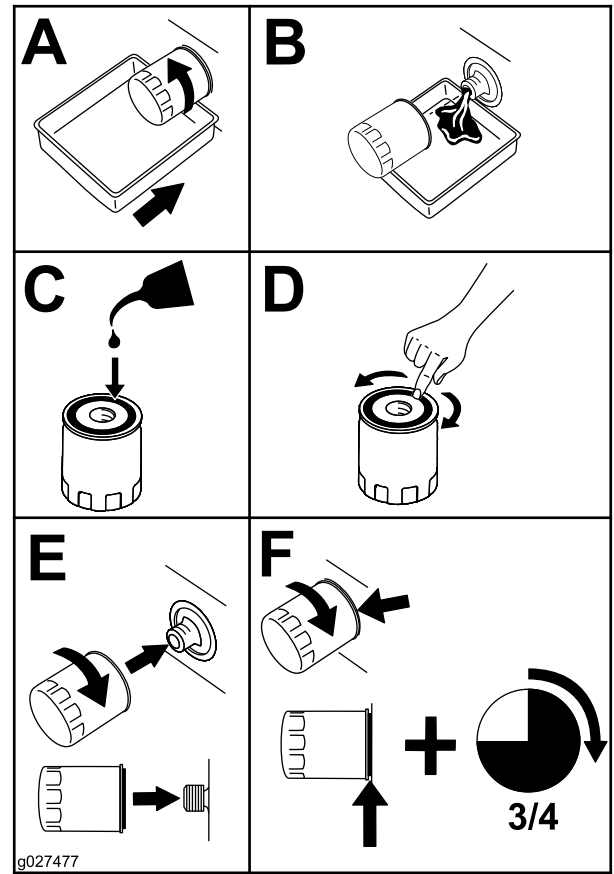

Figure 51
4. Change the engine-oil filter as shown in Figure 51.